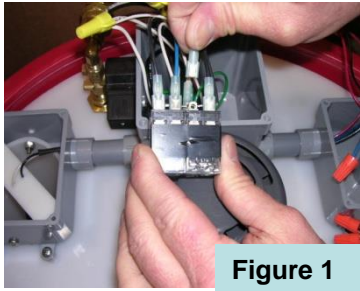

Figure 1
- Disconnect all the terminals from the relays in the centre junction box (See Figure 1).